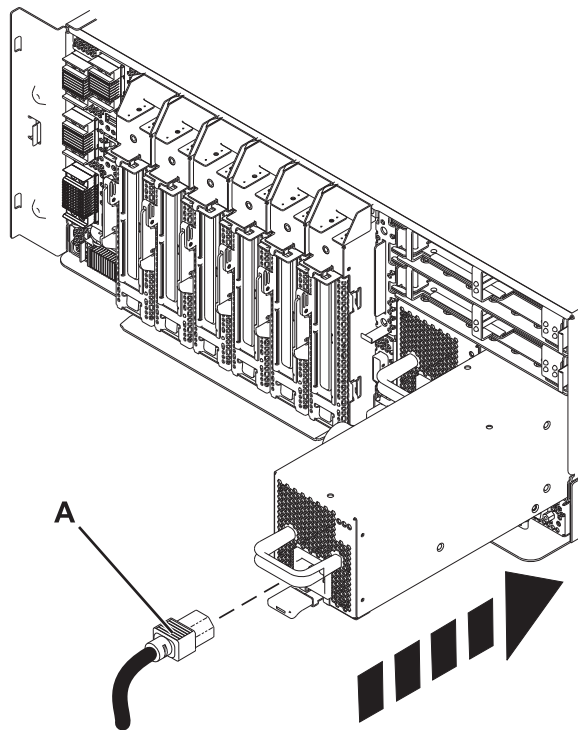

Figure 5. Replacing the power supply
5. Attach the power cable (A), as shown in Figure 5.